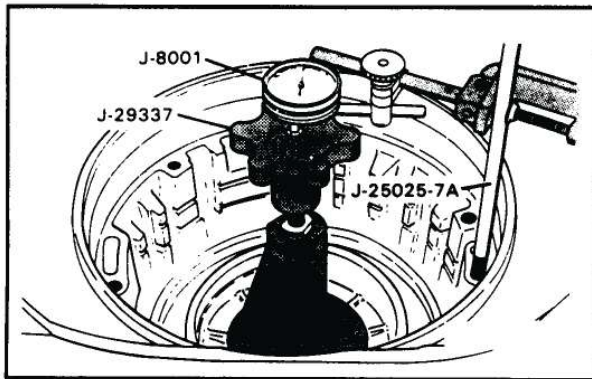

Figure 107
2. Install lifting tool J-29337 onto the forward clutch shaft as shown in Figure 107.
6. Pull upward on the lifting tool J-29337, shown in Figure 107, and read dial indicator.